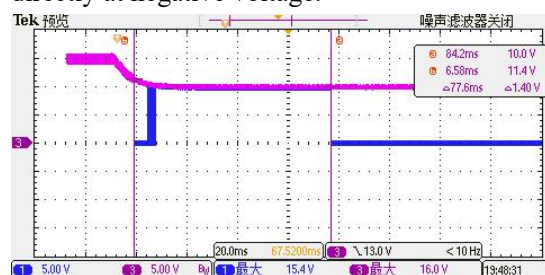

Fig.4 Fault occurrence logic
1. Fault occurs: FAULT pin is pulled to low level for 5ms, then the output fault coding time lasts for 3ms, and the high level is restored for 72ms; as **Fig.4**
2. Fault persists: if the primary side undervoltage fault persists, the FAULT is always low; as **Fig.4**